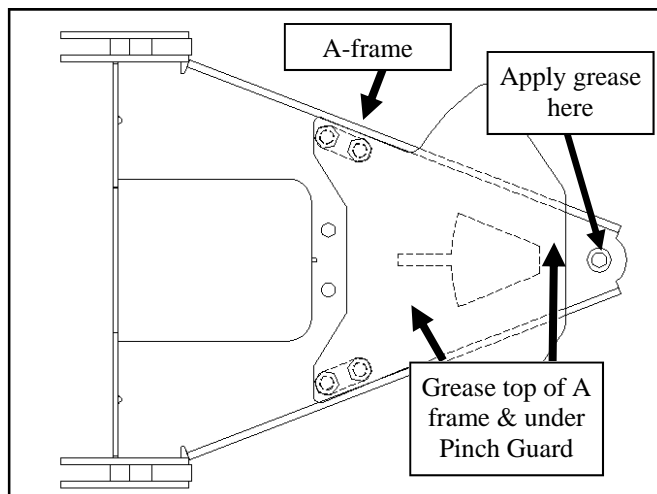

Fig. 6.1—A-Frame and Hardware
- 6.1 Per fig 6.1, locate the A-frame, one 1/2-20 x 3.5" hex head bolt, one 1/2-20 conical locking hex nut, and one 1/2" washer. Apply all-season grease to the top and bottom surface of the A-frame around and in the 1/2" bolt hole. Grease should extend about an inch away from the center of the hole.